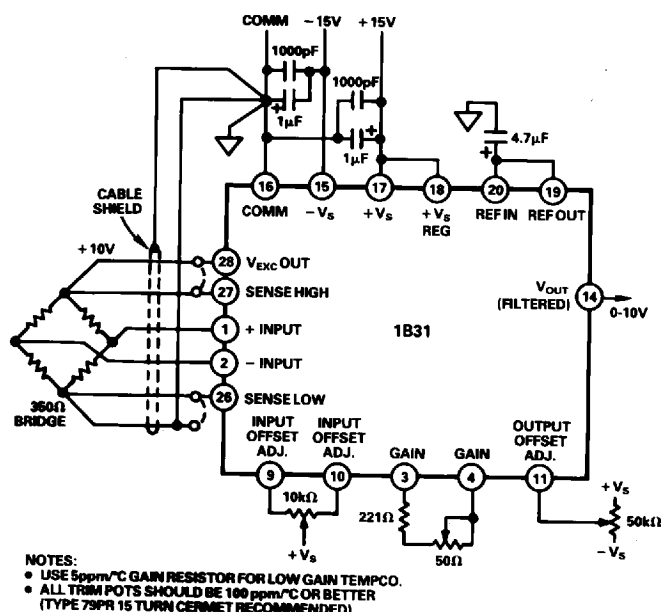

Figure 2. Typical Application
where  $R_G$  is connected between the GAIN terminals (Pins 3 and 4) of the 1B31, as shown in Figure 2. For best performance, a low temperature coefficient (5ppm/ $^\circ\text{C}$ )  $R_G$  is recommended. For fine span adjustment, a 50 $\Omega$  potentiometer may be connected in series with  $R_G$ .
**Input Offset Adjustment:** To null input offset voltage, an optional 10k $\Omega$  potentiometer may be connected across the INPUT OFFSET ADJ. terminals (Pins 9 and 10 in Figure 2). With gain set at the desired value, connect both inputs (Pins 1 and 2) to COMMON (Pin 16), and adjust the 10k $\Omega$  potentiometer for zero volts at Pin 14. For applications using software nulling, Pins 9 and 10 should be left unconnected.
**Output Offset Adjustment:** The output can be offset over the  $\pm 10\text{V}$  range to compensate for dead load or bridge imbalance by using a 50k $\Omega$  potentiometer connected to Pin 11 as shown in Figure 2. Pin 11 is normally grounded if output offsetting is not desired.